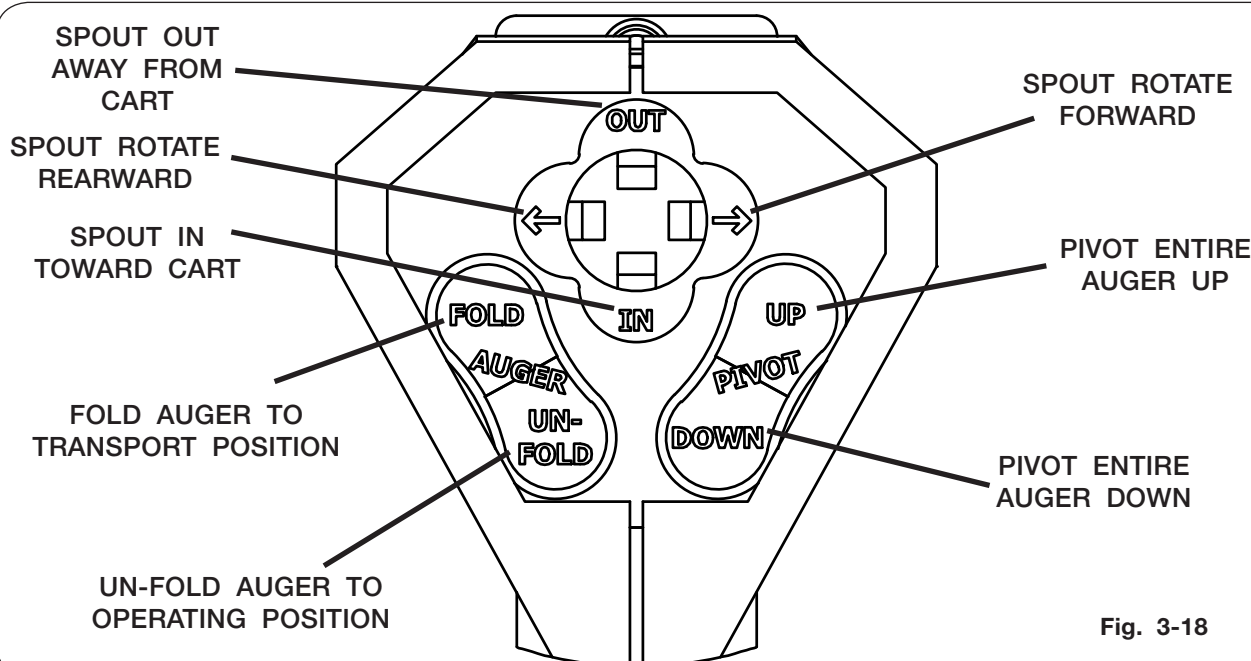

Fig. 3-18
See Fig. 3-18.
4. To pivot spout OUT away from cart, push hat switch toward OUT. Hold the switch until desired position is achieved. See Fig. 3-18.
5. To pivot spout IN toward cart, push hat switch toward IN. Hold the switch until desired position is achieved. See Fig. 3-18.
6. To pivot the entire auger UP, press and hold the auger pivot UP button until the desired height is achieved. See Fig. 3-18.
7. To pivot the entire auger DOWN, press and hold the auger pivot DOWN button until the desired height is achieved. See Fig. 3-18.
8. To pivot the spout FORWARD, push hat switch RIGHT. Hold the switch until desired position is achieved. See Fig. 3-18.
9. To pivot the spout REARWARD, push hat switch LEFT. Hold the switch until desired position is achieved. See Fig. 3-18.